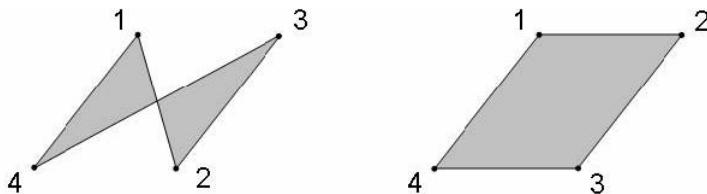

Figure 3.3: An example of a self-intersecting faces is shown on the left. The normal for the face on the left is pointing into the page.
- Faces should not be self-intersecting. Improper ordering of the vertices can create self-intersecting faces, as shown in the left of Figure 3.3. It is important to monitor the order of the vertices to prevent self-intersecting faces in order to correctly orient the face normal.